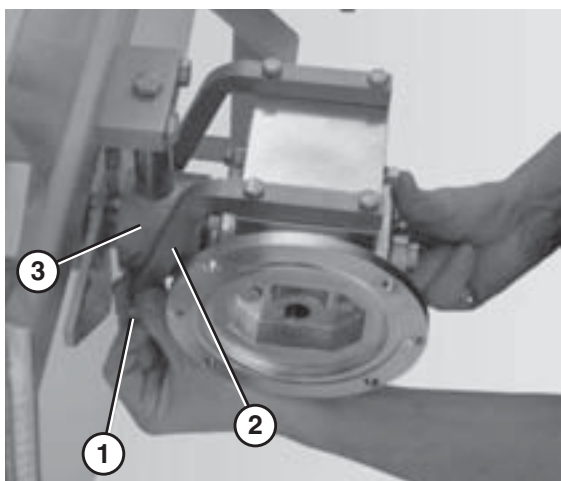

Figure 64
10. Remove the bolts (Figure 64, item 1) that connect the bent bars (Figure 64, item 2) to the drive mounting bracket (Figure 64, item 3).